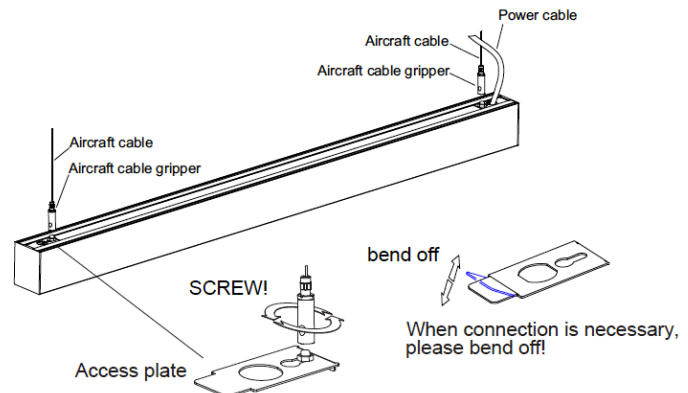

Fig. 4.2
4. Secure the aircraft cable grippers to the luminaire with the screws and washers provided onto the access plate and slide it back in. (**Warning:** only tighten the screws after removing the access plate from the luminaire housing). (Fig. 4.2)